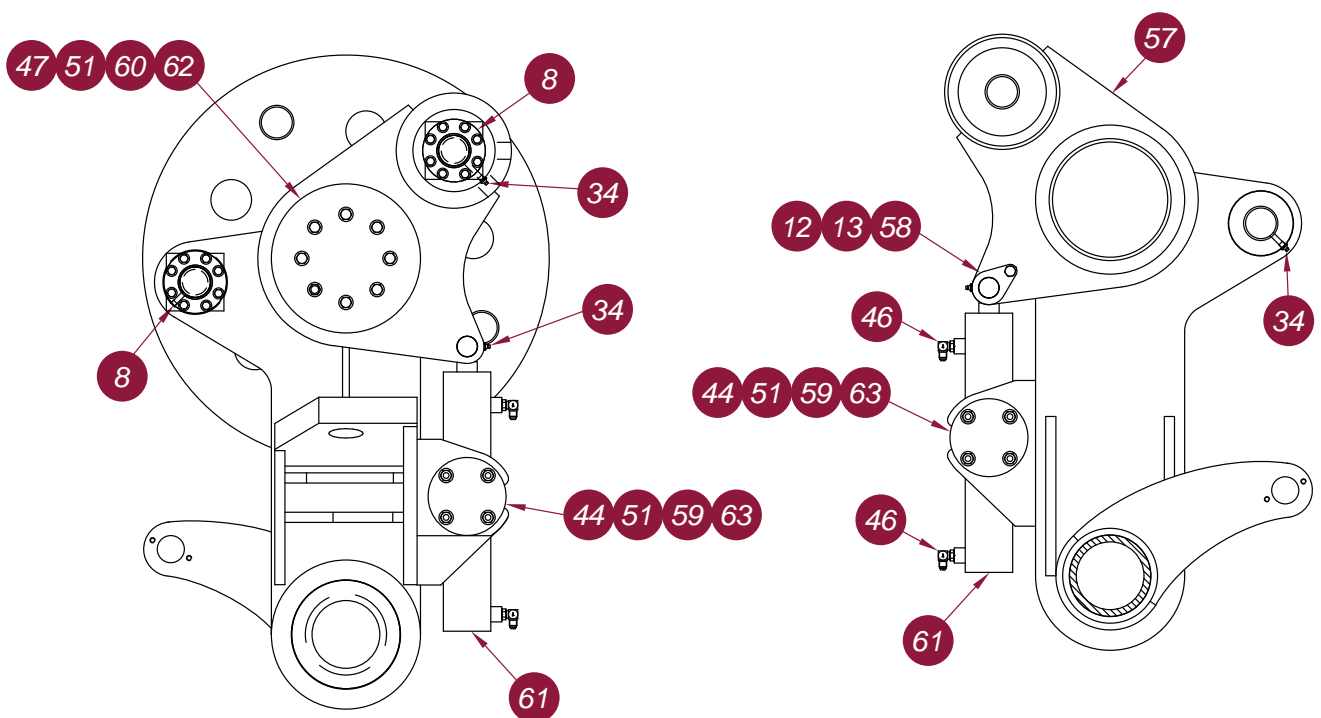

Fig. 6-19 Lower Pipe Rack Assembly
11. See fig. 6-19. Using a suitable lifting device, remove the index plate to a convenient working area.